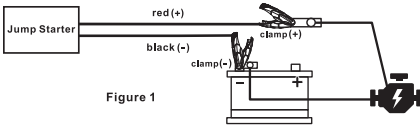

Figure 1
2. Remove the vehicle's positive (red) lead from the battery terminal (fig. 1). Ensure that the ProBooster is switched off. Connect the ProBooster's positive clamp to the vehicle positive lead, NOT the battery terminal (fig. 1).